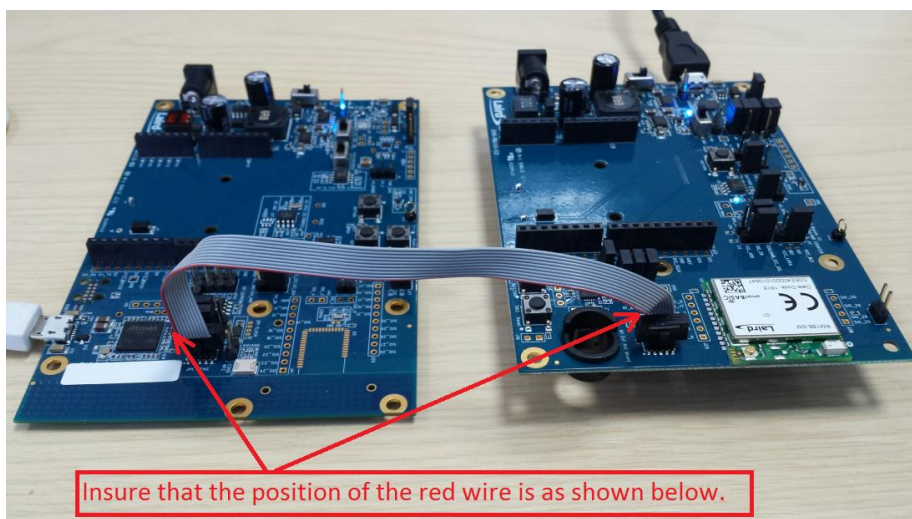

Figure 10: Connecting the programmer board to an RM186 development board
2. Using the supplied ribbon cable, connect the QPK-NRF5X (the programmer board) to the DVK-RM186 development board as shown in Figure 10.